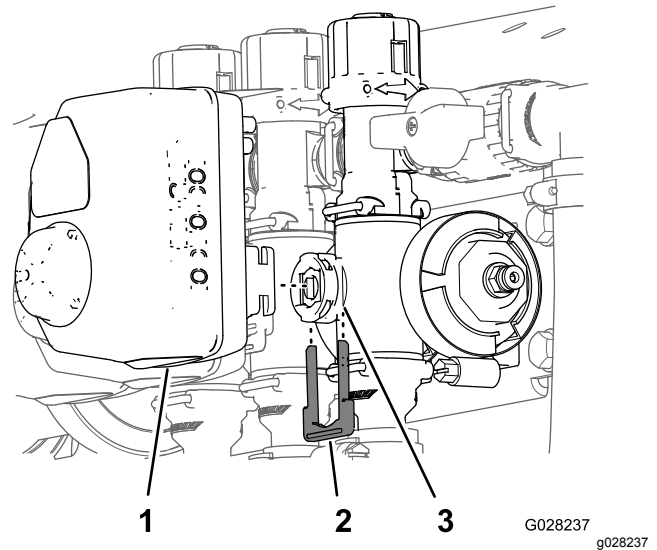

Figure 77
2. Remove the retainer that secures the a actuator to the manifold valve for the section valve or agitation valve (Figure 77).